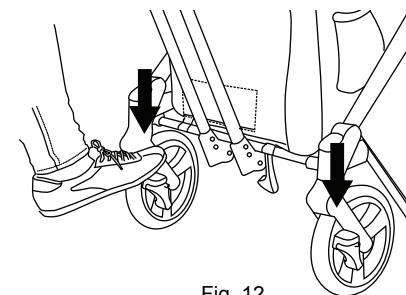

Fig. 12
- 12) • To engage the front brakes, apply light downward pressure to the brake levers located on each front wheel (Fig. 12). The front wheels are locked when there is a click.